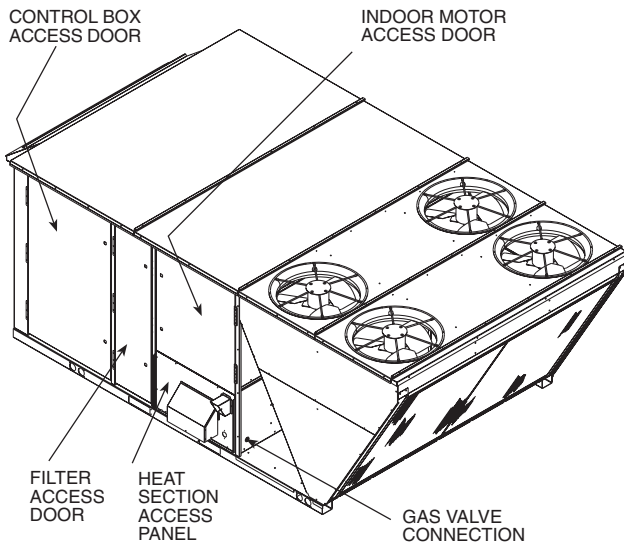

Fig. 1 — Panel Locations
3. Remove heat section access panel. See Fig. 1.
FLUE GAS PASSAGEWAYS — The flue collector box and heat exchanger cells may be inspected by removing heat section access panel (Fig. 1), flue box cover, and main burner assembly (Fig. 6). Refer to Step 1 section for burner removal sequence. If cleaning is required, clean tubes with a wire brush.